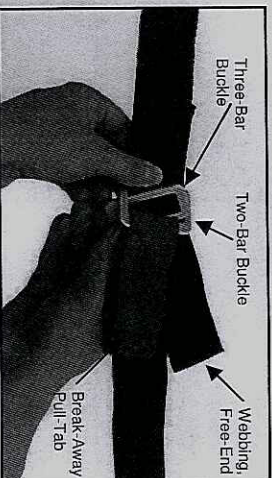

Figure 2, Fastening the Buckle
- 1 Pass the three-bar buckle and webbing upward through the opening in the two-bar buckle ( fig. 2). Make sure to pull the free end of the webbing completely through the opening